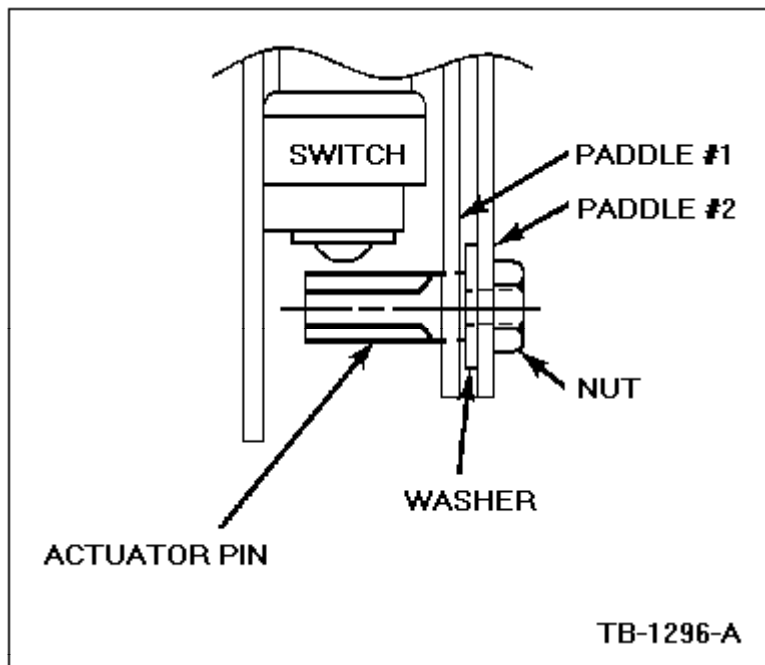

Figure 1 - Article 89-23-14
1. Loosen nut, Figure 1.
1. Start the threaded end of the actuator pin, Figure 1, through the rectangular slot in paddle #1.
1. Install the new switch mount bracket onto the new switch, Figure 1. Tighten finger tight.